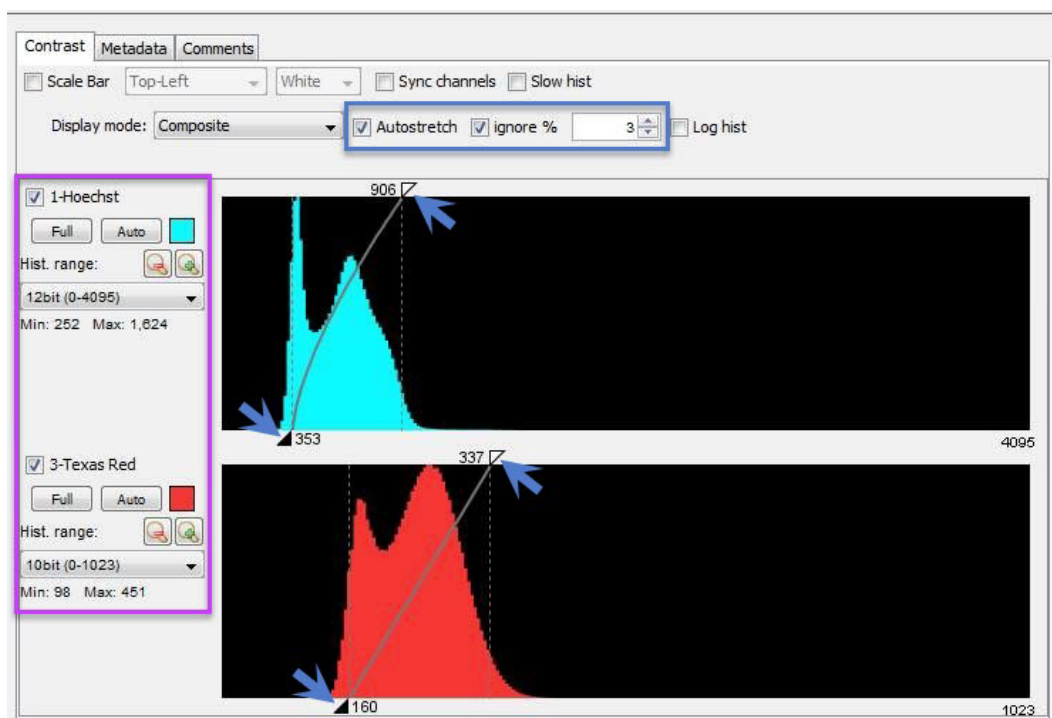

Figure 19. Adjusting camera depth and image contrast.
- a. In the *Main* window, select the *Contrast* tab and ensure that “Camera Depth” menu is set to **12 bit (0-4095)** for Hoechst and **10 bit (0-1023)** for Texas Red (in the purple box in Figure 19, below).
- b. Next, confirm that the [Autostretch] and [Ignore] boxes are selected, and that the percentage value is in the range of **1–3%** for **Ignore** (blue box in Figure 19. If this does not provide optimal contrast, drag the ends of the diagonal line (see arrows in Figure 19) closer to the range of the histogram peaks and zoom out when satisfied with the focus in the Z-plane.